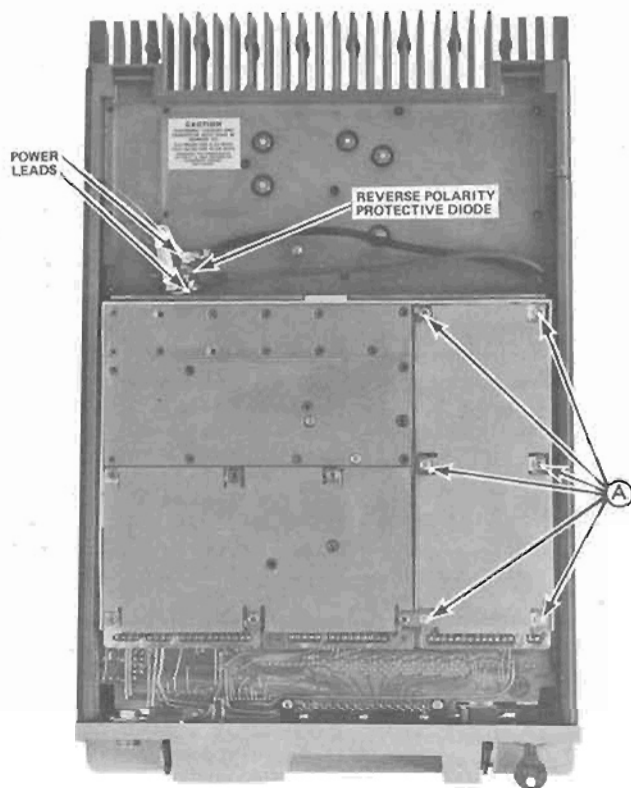

Figure 6 - Disassembly Procedure Bottom View
1. Unplug the exciter/PA cable (B)
2. Remove the six screws (A) holding the exciter board and its bottom cover to the module mounting frame (see Figure 6).